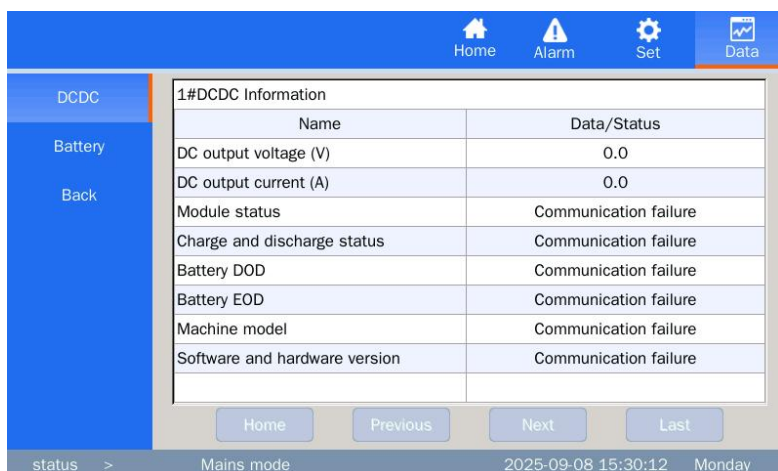

Figure 3-34 DC/DC Information Interface
a. Click the DC/DC Information button to query information such as the current DC module status, DC-side output voltage, current, battery DOD status, and EOD status under the current operating condition. For details, refer to Table 3-15 and Figure 3-34 below.